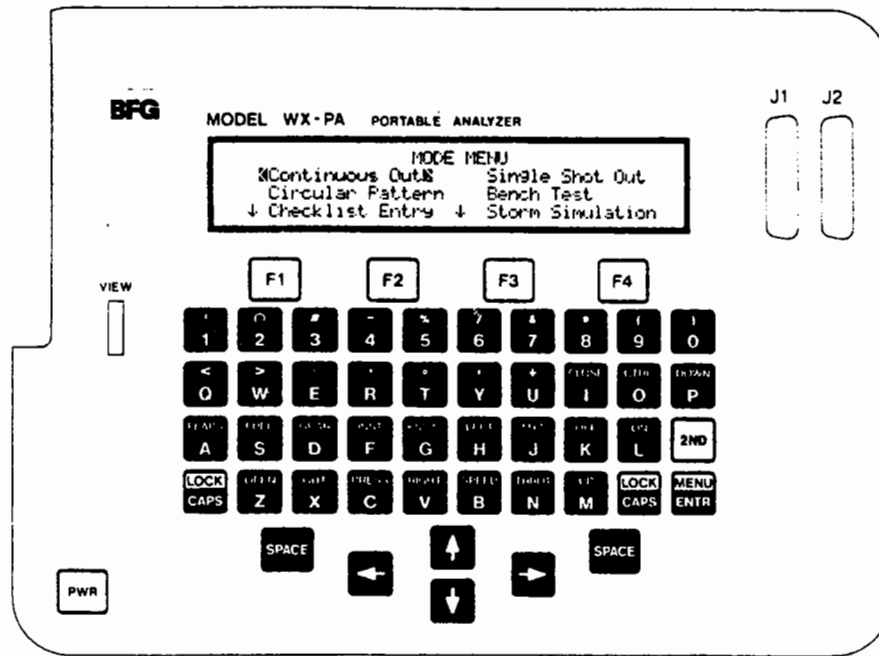

Figure 5-5. WX-PA Control Panel
- b. The Mode Menu will appear on the screen if the WX-PA passes all the self-tests. (See figure 5-5.)
Select Bench Test from the WX-PA Menu (figure 5-5) and press **MENU/ENTR**. The blinking cursor is moved with the arrow keys.